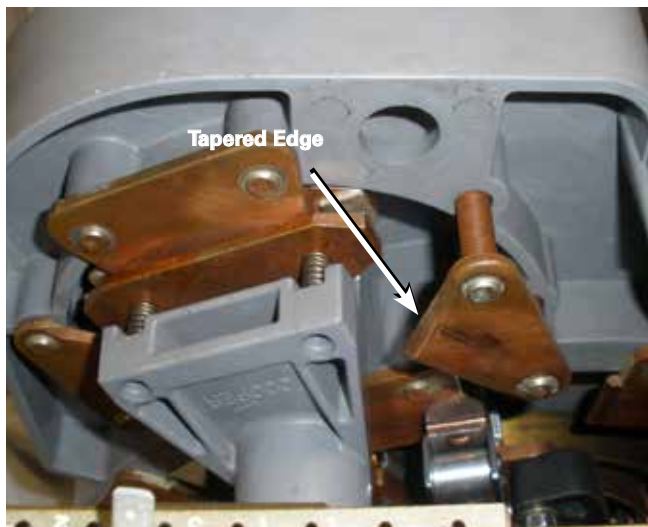

Figure 99. VR reversing stationary contact removal
- Install the new VR reversing stationary contact into the mounting holes in the contact assembly board. Make sure when installing the contact that the leading tapered edge is positioned toward the reversing neutral stationary contact. If the tapered edge is facing in the wrong direction, the stationary VL contact is being used. See Figure 99.